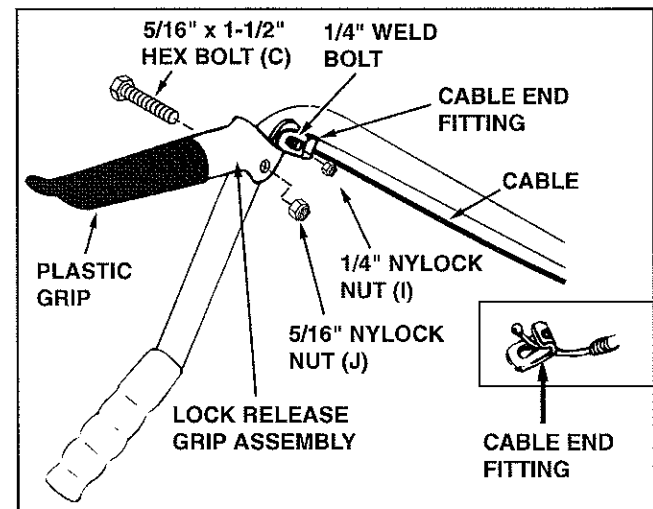

FIGURE 18 (Right Hand Side View)
33. Assemble plastic grip onto lock release grip assembly. See figure 18.
34. Attach lock release grip assembly to lift handle tube using one 5/16" x 1-1/2" hex bolt (C) and one 5/16" nylock nut (J). **Do not overtighten** the nut. The grip assembly must pivot freely. See figure 18.
35. Assemble the ball end of the cable to a cable end fitting as you did to the other end of the cable. Secure the cable end fitting to the weld bolt on the lock release grip with a 1/4" nylock nut (I). **Do not overtighten** the lock nut. The cable fitting must pivot freely. See figure 18.